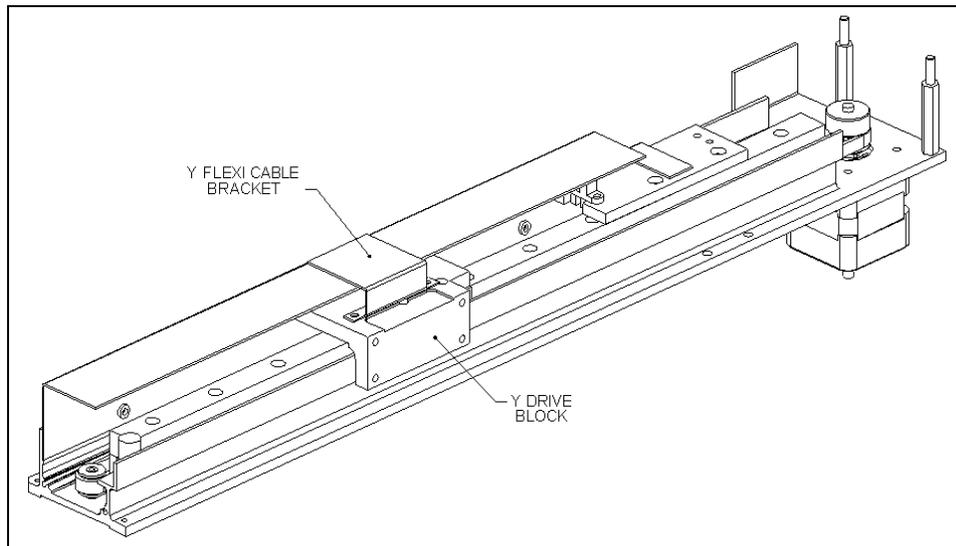

Figure 7-40 Y-Flexicable Bracket
- 1 Remove the Y flexicable Platform bracket (Part No. 204003700) from the Y-Drive Block by removing the 2 M3 x 6 cap head screws (Figure 7-40).